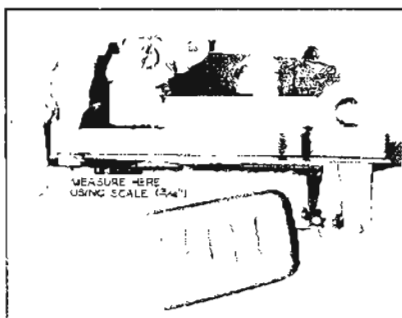

Figure 3-52—Checking Float Drop
11. Adjust Float Drop. With air horn held in upright position, measure vertical distance from air horn gasket to outer end of each float using a scale. Bend float arm tang as required to obtain $3/4$ " measurement. See Figure 3-52.